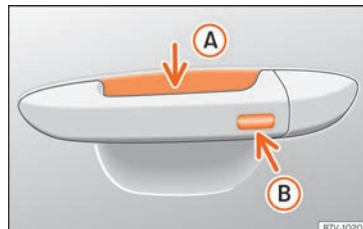

Fig. 150 Driver door lever: sensor surfaces.
• Press and hold the locking sensor surface »» Fig. 150 (B) on the door handle to close the sunroof. If you release the sensor surface, the closing movement stops.